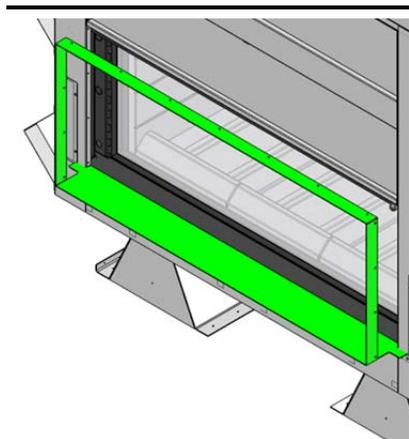

FIGURE 17 **SURROUND
Lintels (B) are provided with the fireplace to easily finish the border of the front opening. Use the rivets provided (G) to attach the lintels to the fireplace as shown in Figure 17.